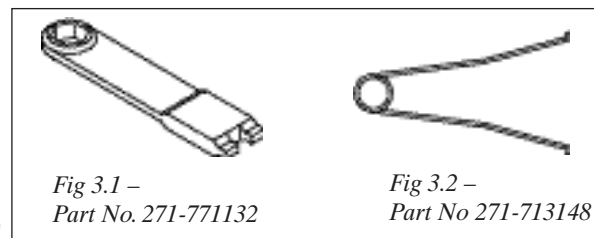

Fig 3.1 –
- Accessory tool (Accessories) (Fig 3.1)